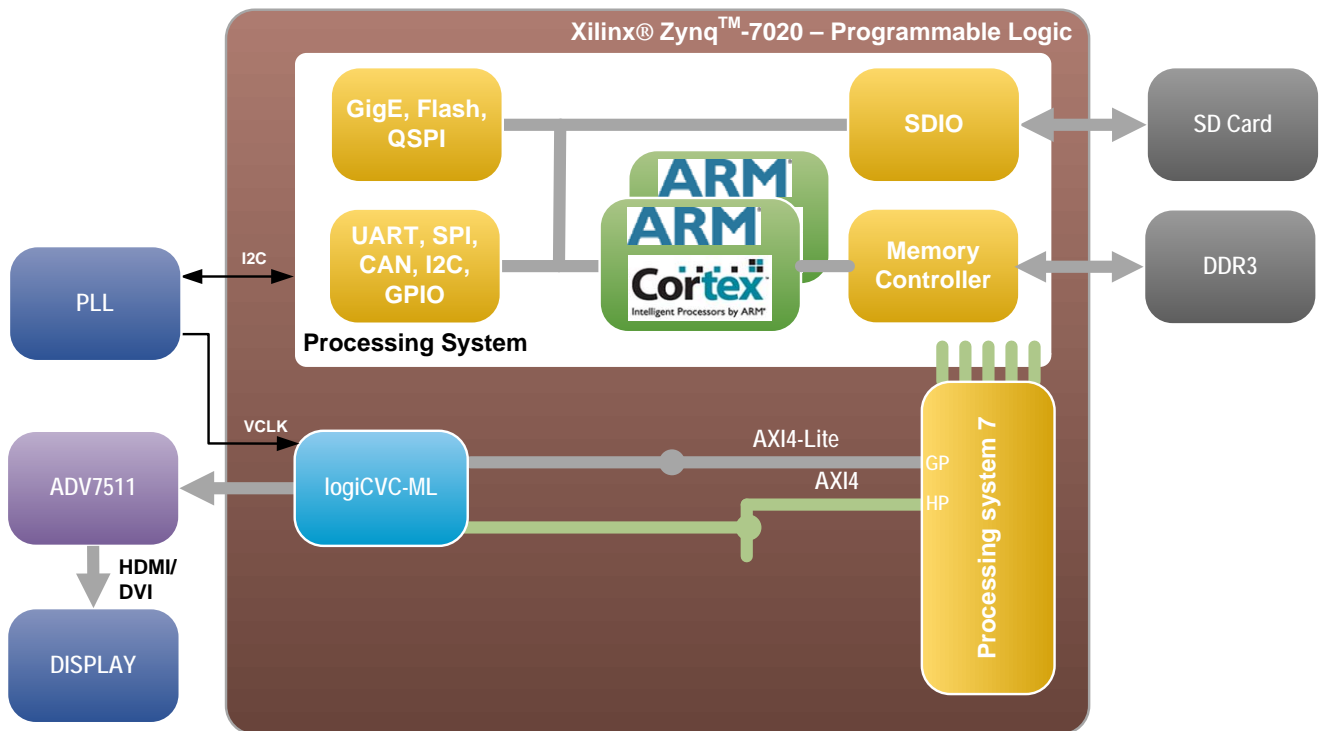

Figure 23: A Minimal Zynq-7000 AP SoC Display Controller
Figure 23 shows an example architecture featuring only the logiCVC-ML display controller IP core. Such a configuration provides no graphics acceleration in the programmable logic and all graphic contents must be fully drawn by the Processing System (PS). The consumption of programmable logic resources is minimal. The Figure 23 shows a clocking structure detail – please see the paragraph 6. Video Output Clocking.